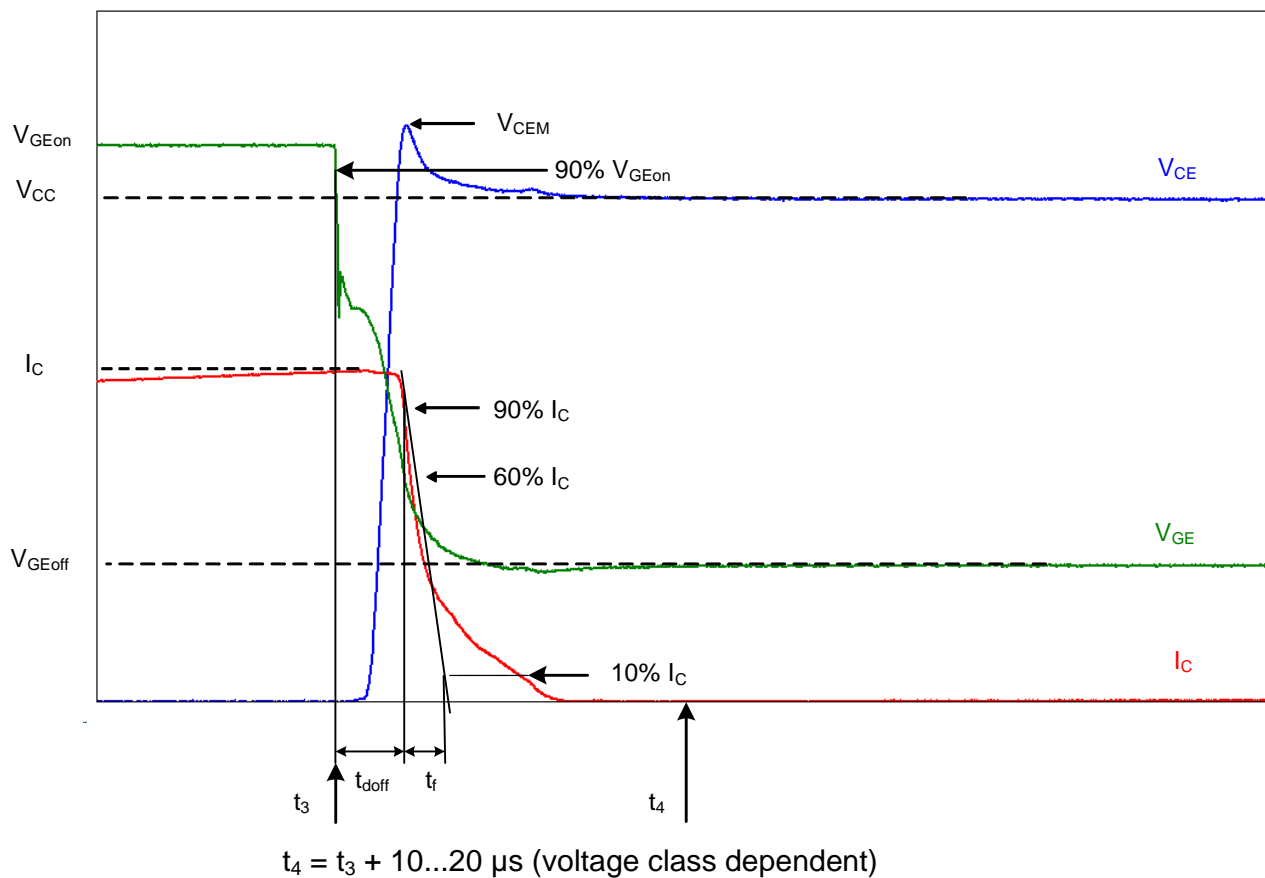

Fig. 4 Definitions of turn-off parameters for IGBTs
**$E_{off}$ :** *Turn-off switching energy.* The energy dissipated during a single turn-off event. It is the integration of the product of the collector current and the collector-emitter voltage from  $t_3$  to  $t_4$  (see Fig. 4) as expressed by Equation 3.